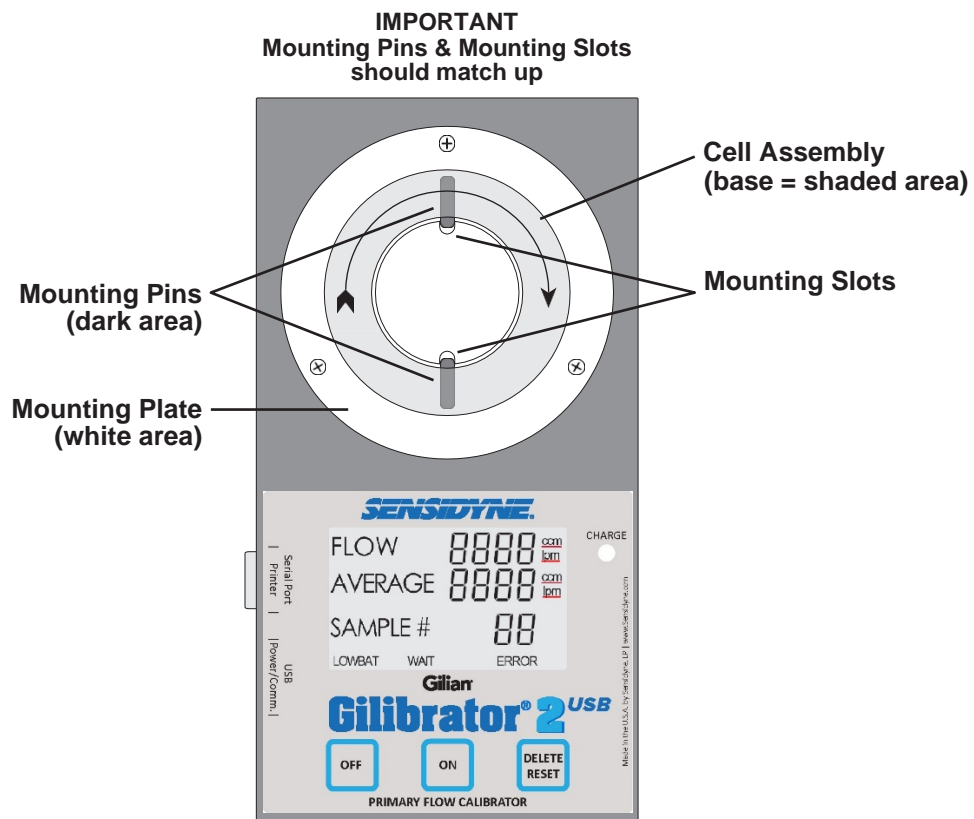

Figure 3.3
- 5) Align the Mounting Pins on the Flow Cell with the Mounting Slots on the Mounting Plate (see Figure 3.3). If alignment is successful, the bottom of the Flow Cell should mount flush with the Mounting Plate.